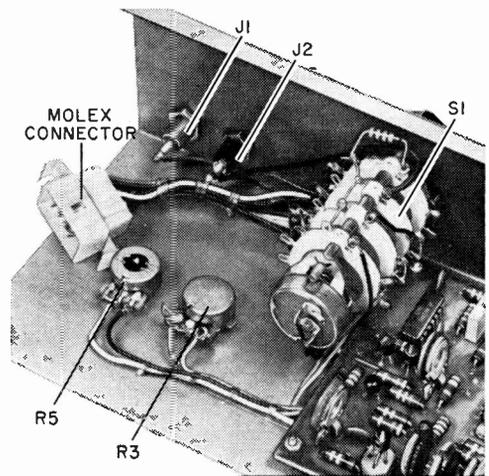

Fig. 6. Photo shows parts mounting details for off-board components.
**Construction.** Since all of the components that make up the DVOM Module mount on a single printed circuit board (see Fig. 5 for actual size etching and drilling guide and components placement diagram), assembly is very simple. The only off-the-board components are S1, the attenuator resistors, and a pair of potentiometers as shown in Fig. 6.